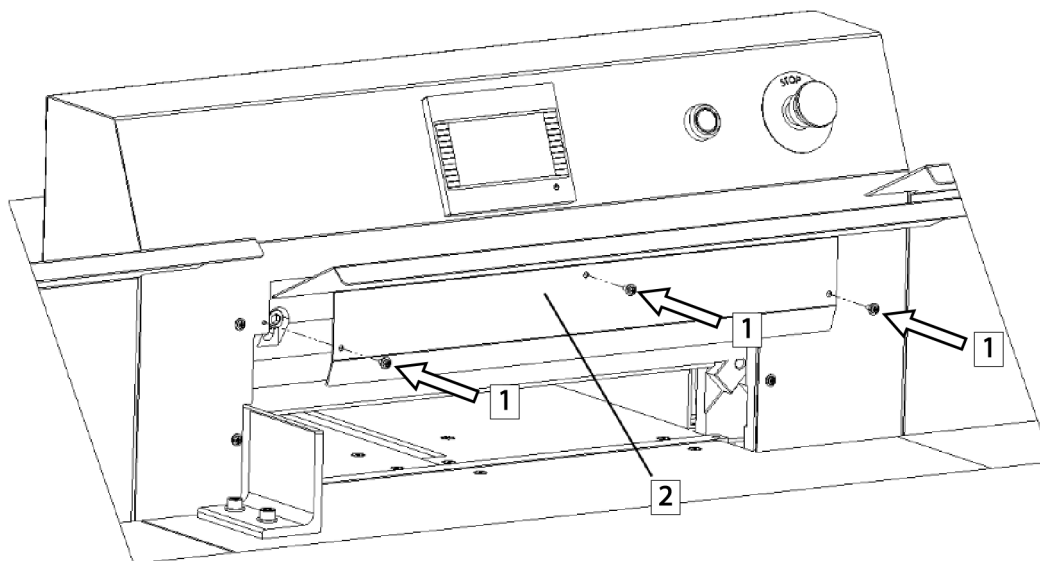

Figure 34
8.1.2.23 Attach cover 2 with the screws 1 (fig.34)